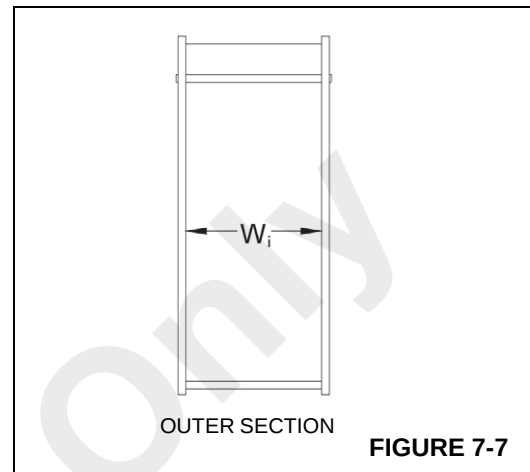
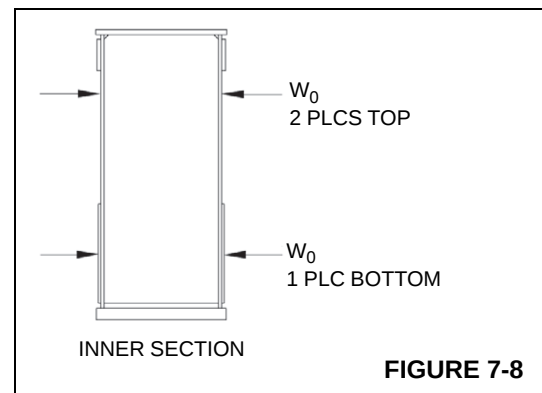
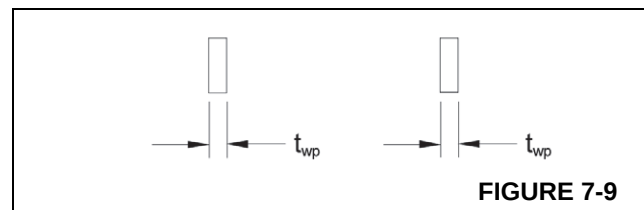

FIGURE 7-7
FIGURE 7-8
FIGURE 7-9
2. With the inside/outside calipers, measure the outside width of the appropriate inner section (W_o , Figure 7-8) at the rear of the section and three ft from the rear. Record the largest measurement.
3. Measure the thickness of the wear pads and record (t_{wp} , Figure 7-9).
4. Subtract the largest outside width (W_o , Figure 7-8) of the inner section and the thickness of the two pads (t_{wp} , Figure 7-9) from the inside width of the outer section (W_i , Figure 7-7). Add shims as required (each shim is 0.03 or 0.06 thick) to tighten the pads so that there is 0.00 - 0.06 clearance between the widest part of the inner outrigger section and the most narrow part of the outer outrigger
1. With a pair of inside/outside calipers, measure the inside width of the outer section outrigger (W_i , Figure 7-7) at the front pad location and three ft back from the front of